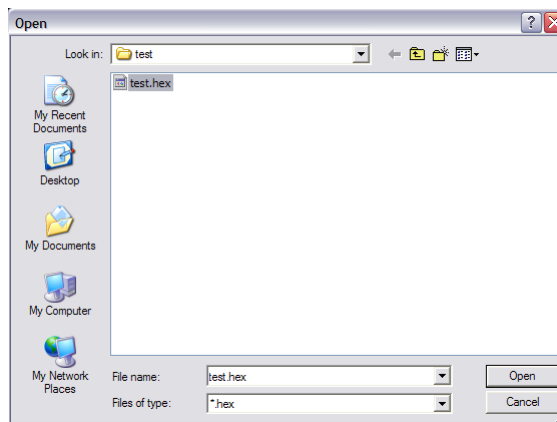

Figure 11: Open .hex file dialog
6. Open your `.hex` file (Figure 11).